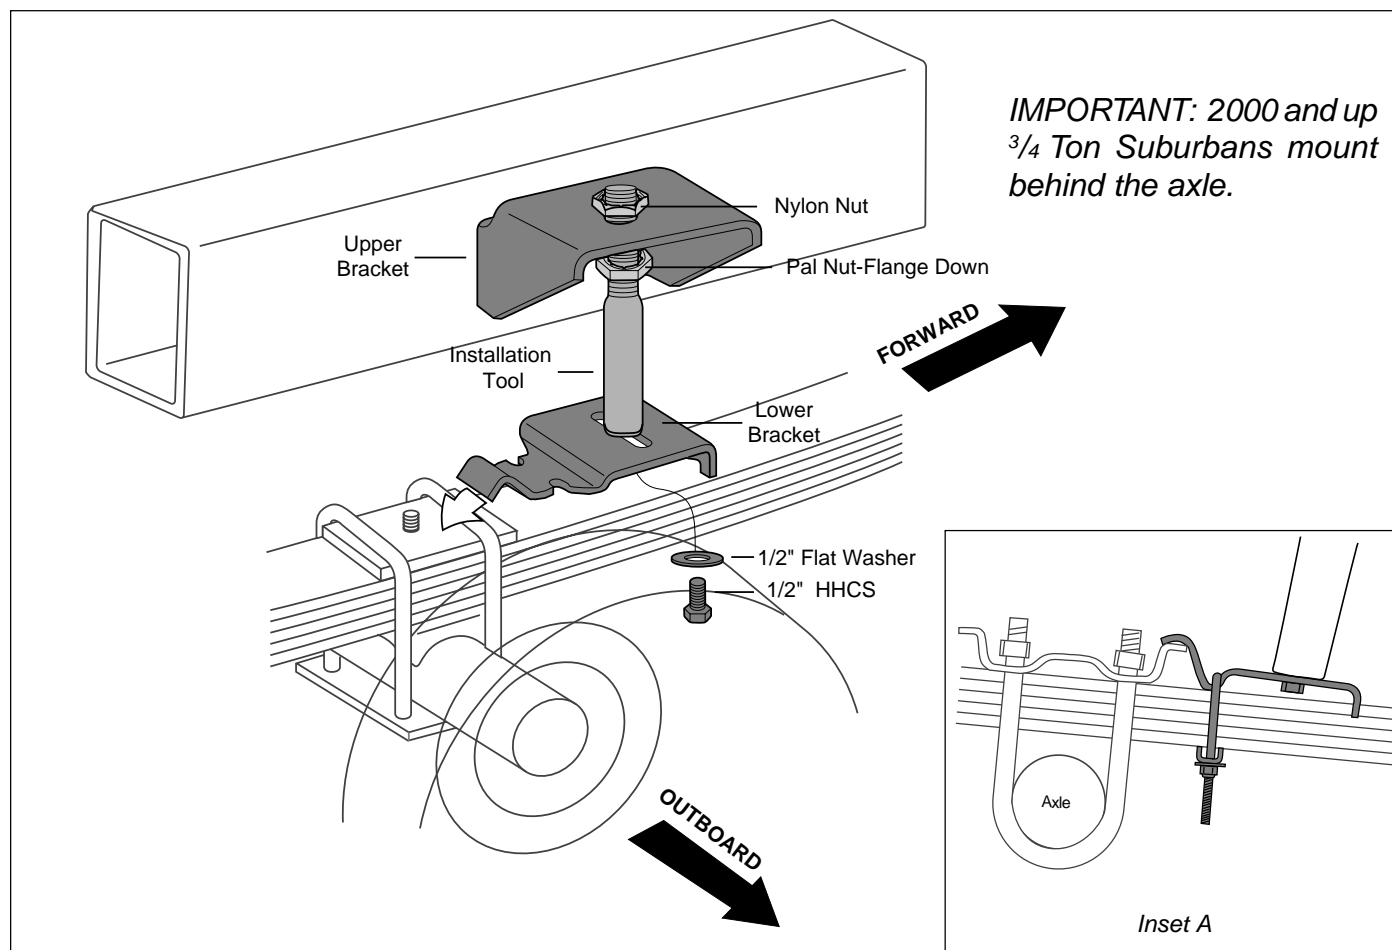

Figure 1
1. Place the upper bracket onto the threaded end of the tool and rest the bracket on the bottom Pal nut (flange down). Then thread a nylon nut onto the tool to hold the bracket in place (Figure 1).
2. Use a 1/2" flat washer and the 1/2" x 7/8" bolt to attach the lower bracket to the bottom of the installation tool. Leave just loose enough to adjust in and out (Figure 1).
4. With the hook end of the lower bracket placed over the existing U-bolt or Spring Retainer, secure the lower bracket to the leaf spring with the provided U-bolt, flat washers, and lock nuts. Torque to 16 ft-lbs (Figure 1 and Inset A).
IMPORTANT: There must be at least 1.5" above the upper bracket for air fitting clearance. The brackets can be mounted anywhere within the threaded range of the installation tool (Figure 1).